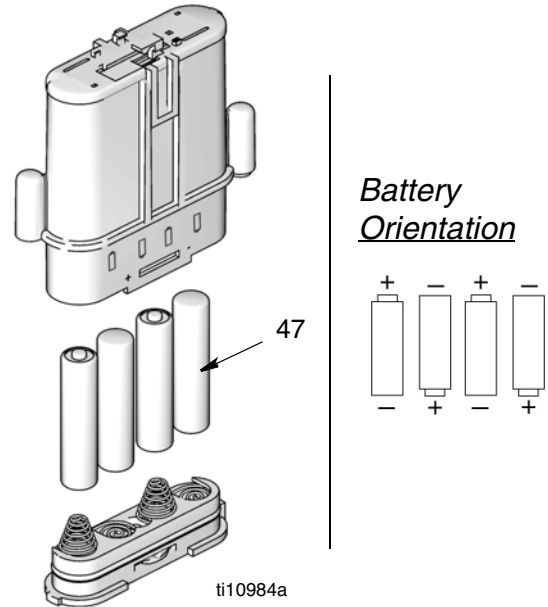

FIG. 37
- Be sure to follow the correct polarity when installing batteries in the battery compartment (FIG. 37). Reversed batteries may damage this meter.
- Install new batteries. See FIG. 37 for battery orientation.